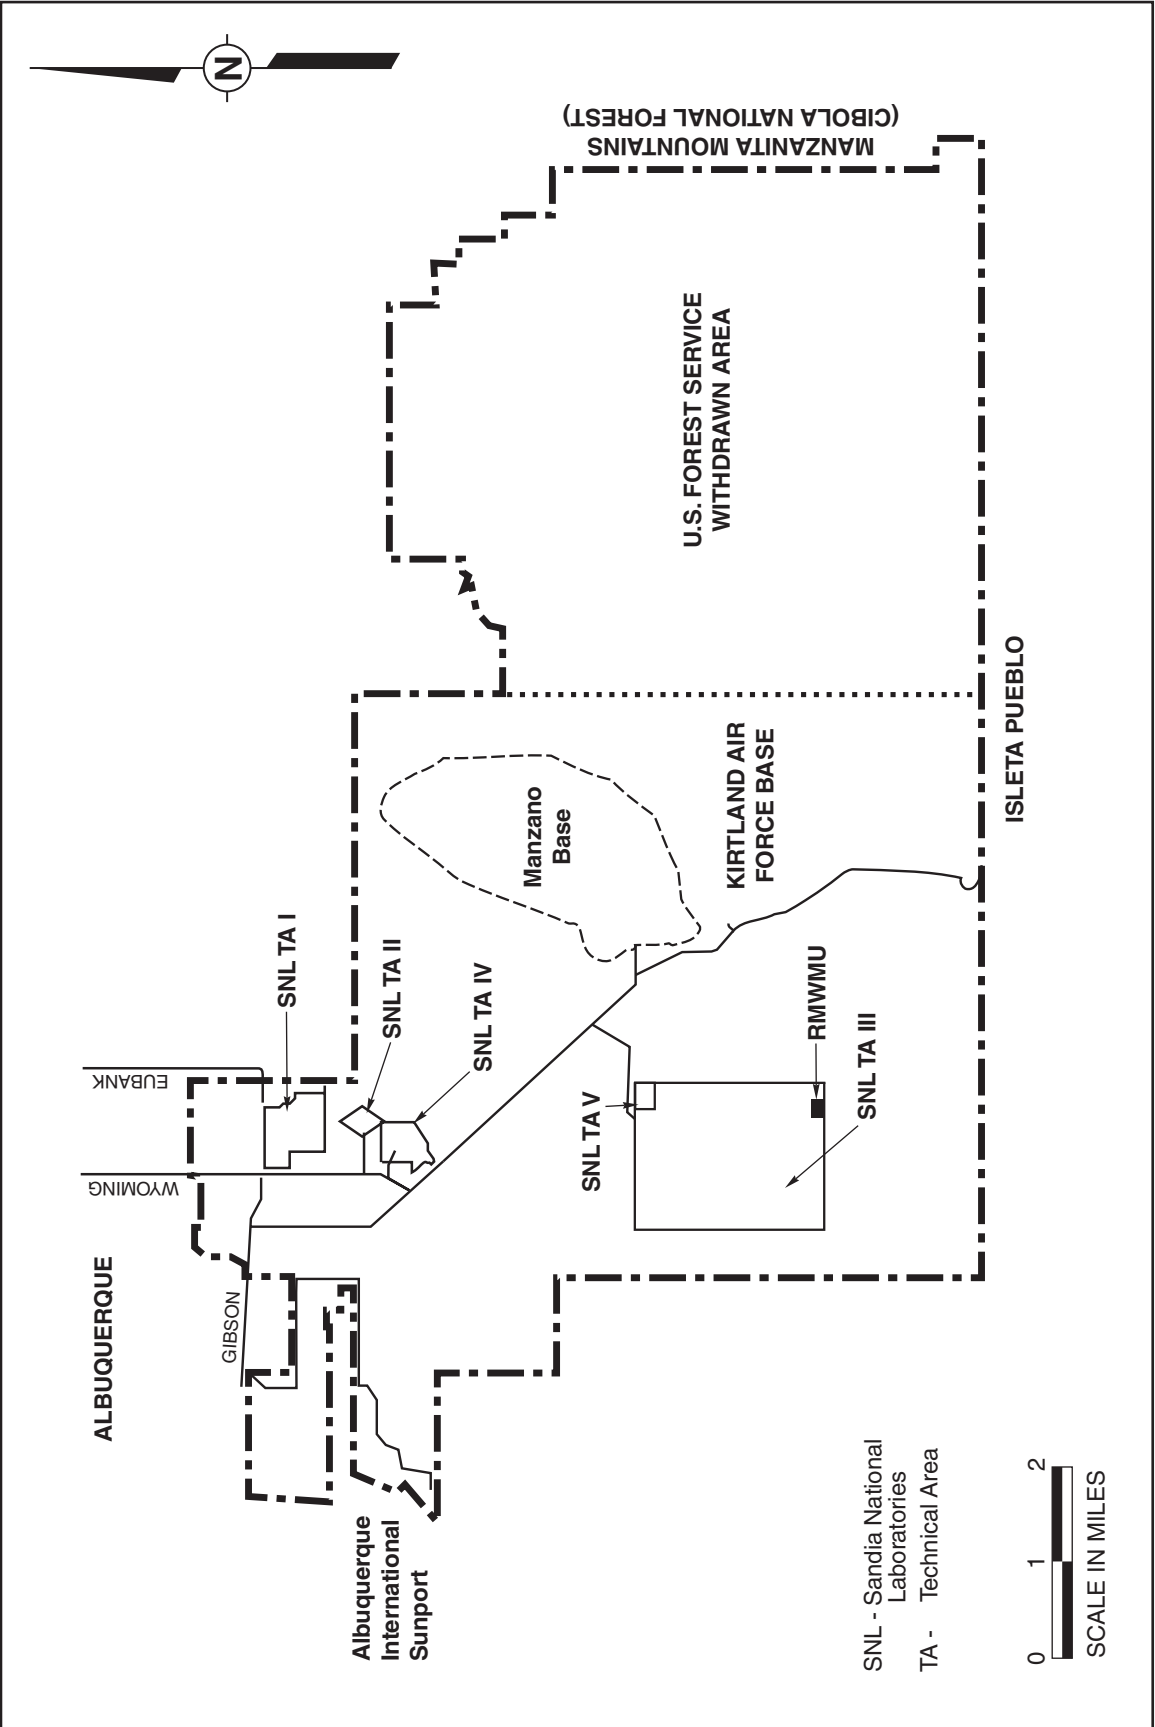

Figure 15
- Figure 15: Location of the Radioactive and Mixed Waste Management Unit (RMWMU) at the Facility